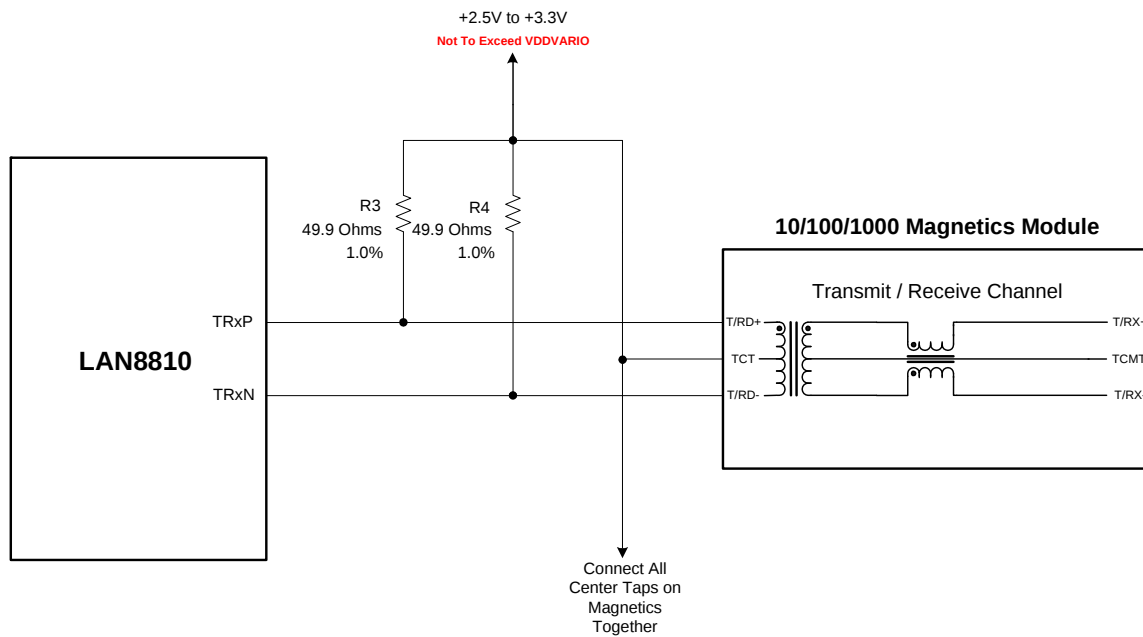

Figure 1 – Transmit / Receive Channel x Connections and Terminations
9. For Transmit/Receive Channel connections and termination details, refer to Figure 1.
10. **Note:** The bias voltage for the (8) 49.9Ω terminations and the magnetic center taps must not exceed the VDDVARIO voltage level.